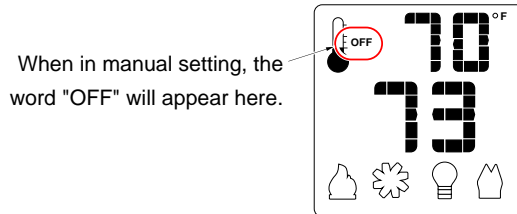

Figure 7
- MANUAL ON/OFF** – The burner will turn on and off using the remote (see Figure 7). Press the On/Off button to control the burner. When off, the display will only show the current temperature.